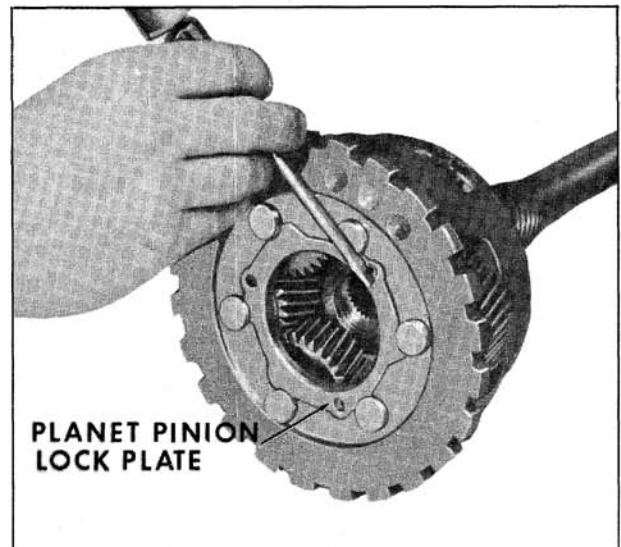

Fig. 6-455 Removing Lock Plate
2. Rotate planet pinion lock plate and remove. (Fig. 6-455)